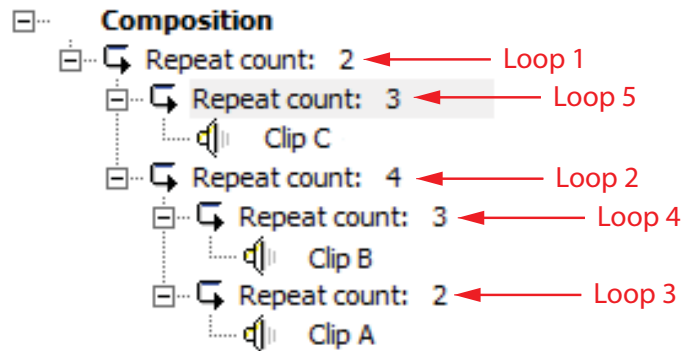

Figure 76 Nested Loop Example
14. The composition should look like this (Figure 76):